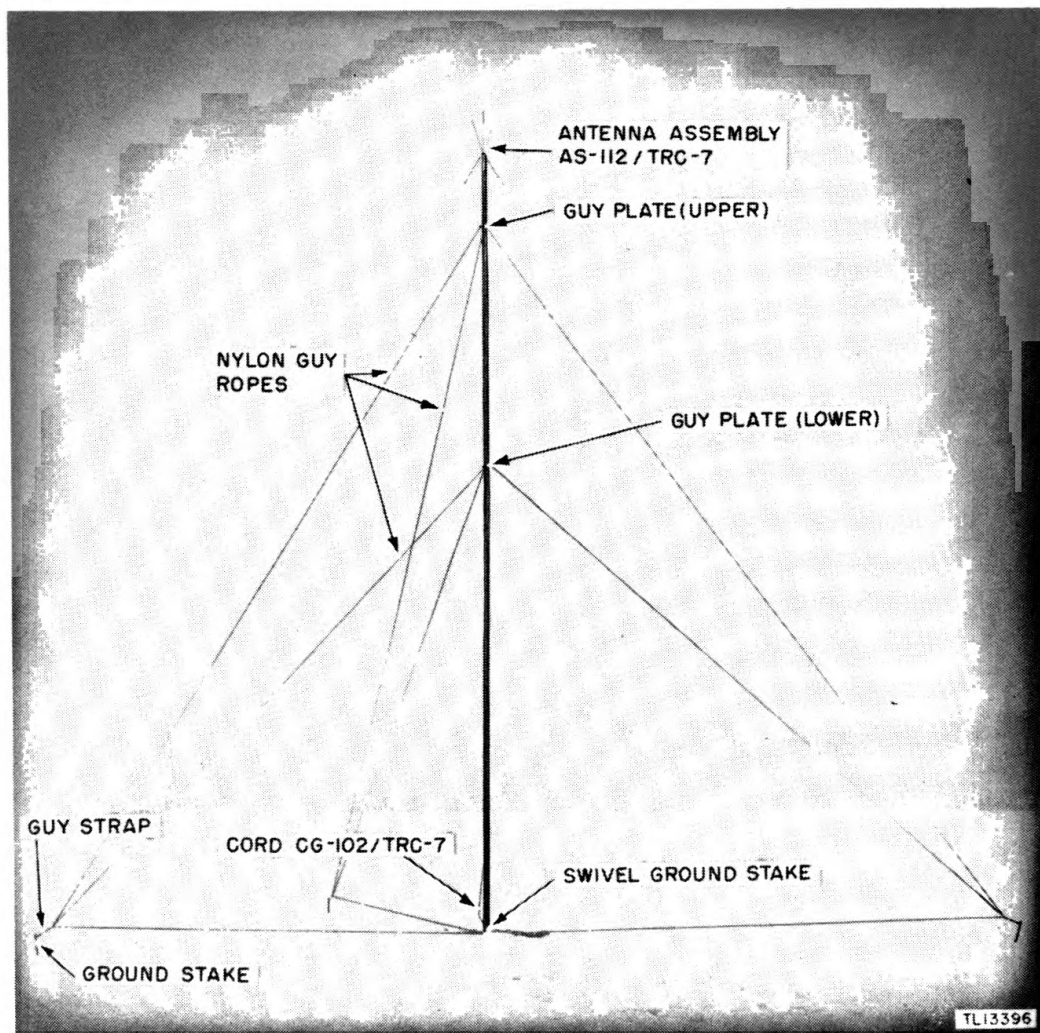

Figure 9. Antenna Assembly AS-110/TRC-7.
8. ANTENNA ASSEMBLY AS-110/TRC-7 (fig. 9).